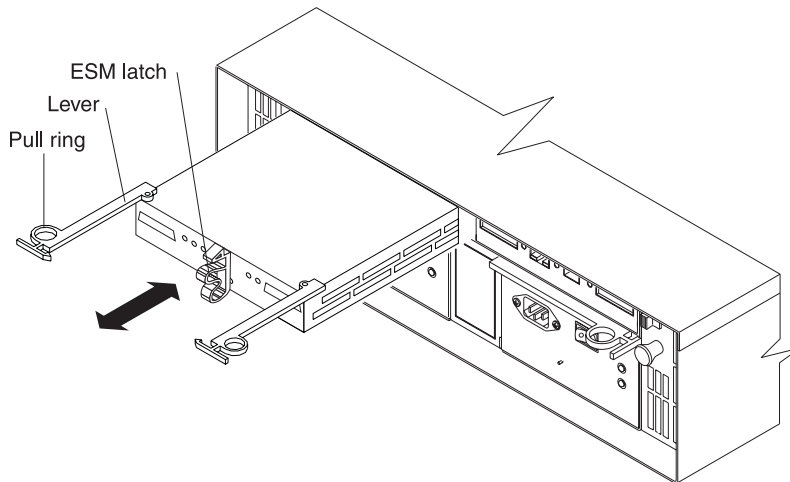

Figure 13. Removing an ESM
2. Remove the ESM from the bay, as shown in Figure 13 on page 24.